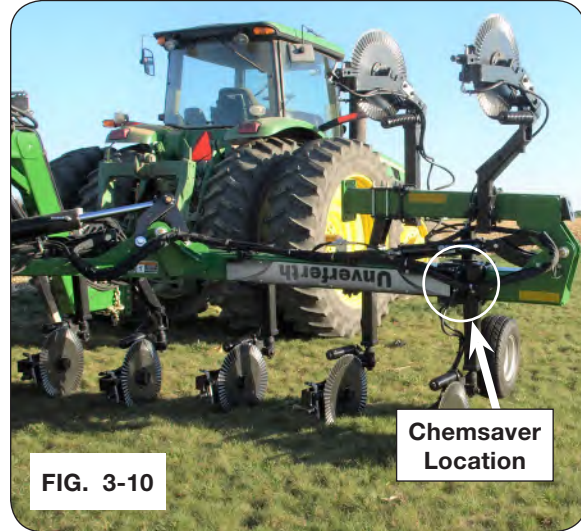

FIG. 3-10
3. Adjust each gauge wheel position on all of the wing sections. (FIG. 3-10)
1. Fold the toolbar to 30' for the dual width application. (FIG. 3-10)
2. Turn off sections 1 and 5 on the flow controller, and turn on the chemsaver valves to the outside coulters on each main wing. (FIG. 3-10)